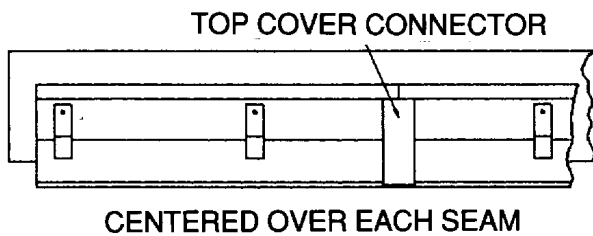

Figure 9
2. Caulk the top cover support sections at the seams then center the top cover connectors over each seam and attach with #10  $24 \times 1/2"$  screws as shown in figure 9.